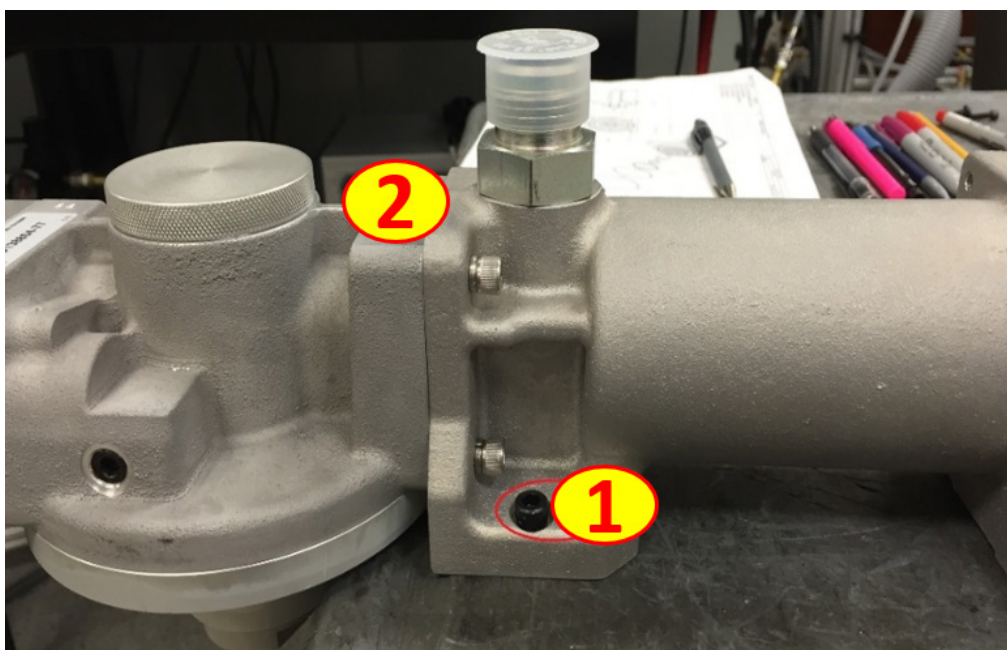

Figure 4-6. Accelerometer Mounting Area
3. Take at least one measurement as close as possible to the mounting point (i.e., close to the mounting bolt) on the PFAV per Figure 4-6.
4. If possible, measure vibration at one mounting point and at a point on the PFAV where a high response, or vibration amplification, is expected such as location #2 in Figure 4-6. It is critical to document accelerometer locations and provide this information to Woodward with the collected vibration data.
7. Where there is no concern for damaging parts, it is recommended that the accelerometer be screwed into a drilled and tapped hole when possible. This can safely be done on the flange next to the mounting bolt shown in Figure 4-6. Apply Loctite 243 or equivalent to the accelerometer's thread before installing in a tapped hole. If adhesive is used to apply the accelerometer to the PFAV or engine surfaces, it is recommended to use high-strength, high-temperature adhesive.